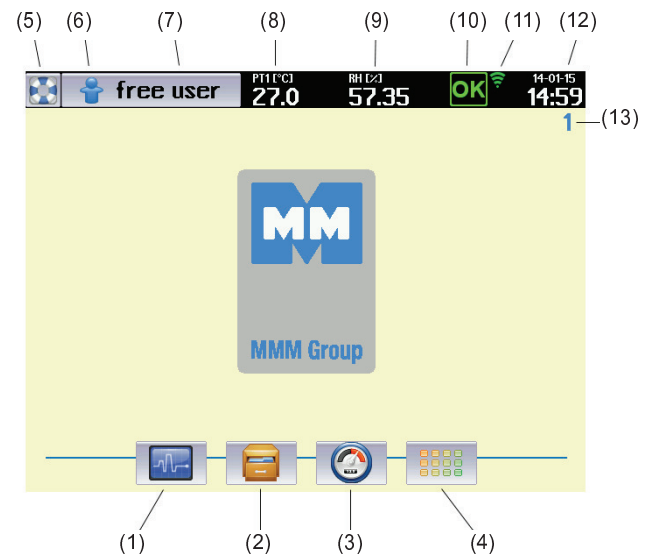

Fig. 12
In order for the device to be operated precisely as the user requires, it must first be set up. Click  (Fig. 12) to open the device settings screen.
- The field (7), Fig. 12, displays the words free user.
- The field (7), Fig. 12 displays the word admin.
- The field (7), Fig. 12, displays the word admin.
- The field (7), Fig. 12, displays the operator name.
- The field (7), Fig. 12, displays the word login.
administration. Clicking the  (Fig. 12) icon opens the login screen.